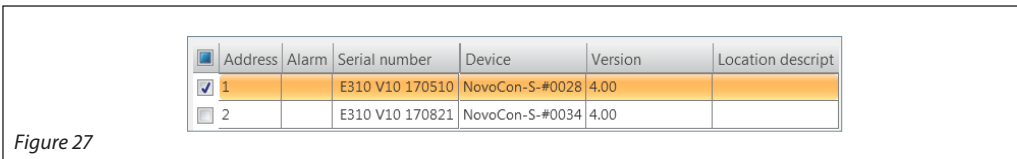

Figure 27
I. Select NovoCon(s)® to which you want import CSV file (figure 27).